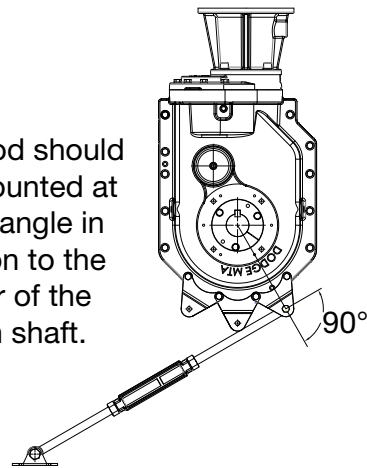

Figure 6 - Tie Rod Mount
6. Install torque arm fulcrum on a flat and rigid support so that the torque arm will be approximately at right angles to the centerline through the driven shaft and the torque arm anchor screw, as shown in Figure 6.